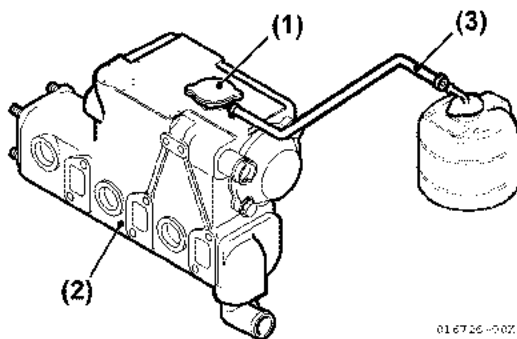

Figure 7-16
1. **WARNING! Burn Hazard. NEVER remove the coolant filler cap if the engine is hot. Steam and hot engine coolant will escape and seriously burn you. Allow the engine to cool before attempting to remove the filler cap.** Remove coolant filler cap (Figure 7-16, (1)) from heat exchanger (Figure 7-16, (2)).
3. Check the rubber hose (Figure 7-16, (3)) connecting the coolant recovery tank to the heat exchanger. Be sure the hose is securely connected and there is no damage.